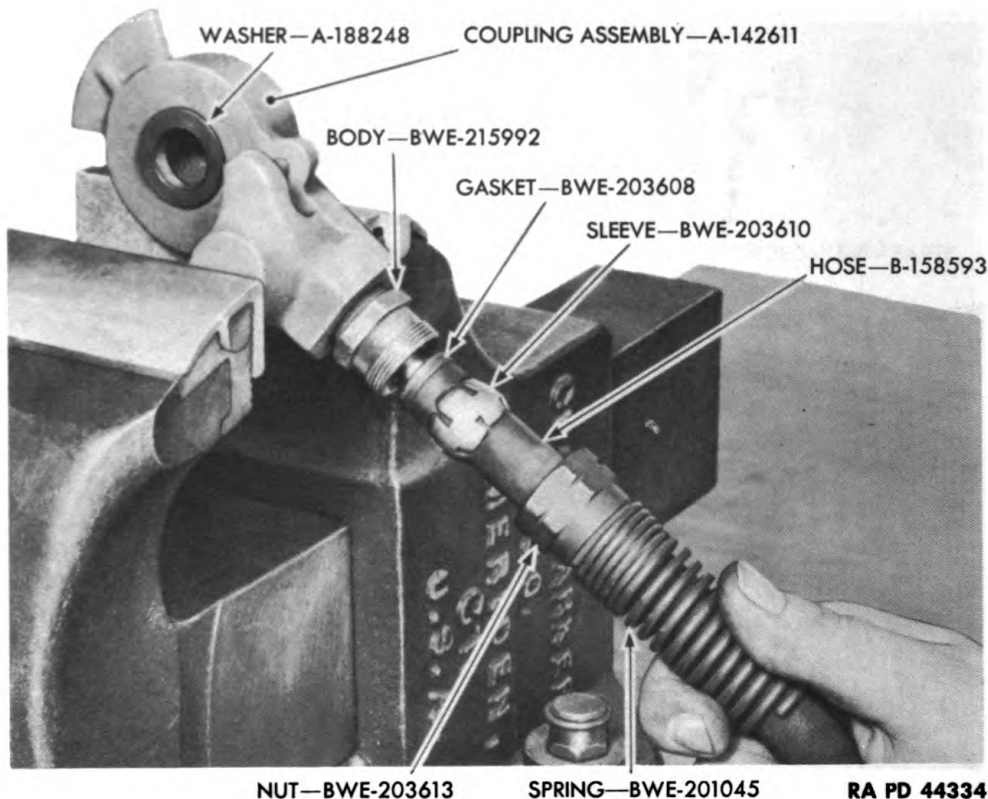

Figure 320—Removing Hose Coupling
e. Disassemble Air Line Hose Couplings (figs. 320 and 321). Procedures for disassembly of air line service hose assembly B166446 and air line emergency hose assembly B166445 are the same. The following procedure covers the air line service hose:
(1) Clamp service coupling assembly A142611 in a vise and remove hose connector nut BWE-203613 with hose connector spring BWE-201045 from hose connector body BWE-215992.
(2) Remove hose connector body from service coupling assembly.
(3) Pull hose connector gasket BWE-203608 from end of hose